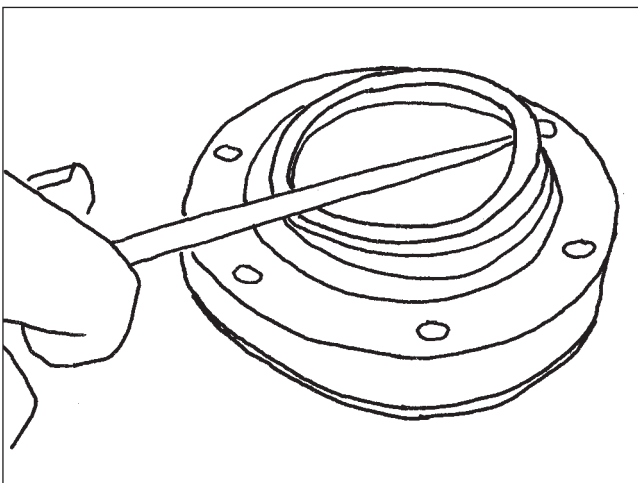

Figure 25
9. Pry the excluder seal out of the sector shaft cover if equipped (Figure 25).